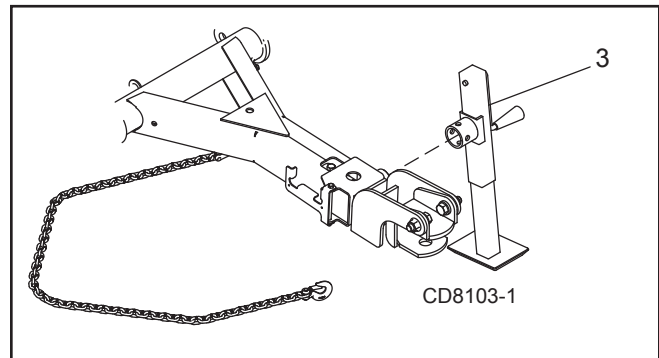

Figure 1. Cutter to Tractor Connection
2. Attach safety tow chain to drawbar support. Leave enough slack for turning (Figure 1).
4. Remove parking jack (3) from the tongue and attach it to the storage post on the front of the unit.